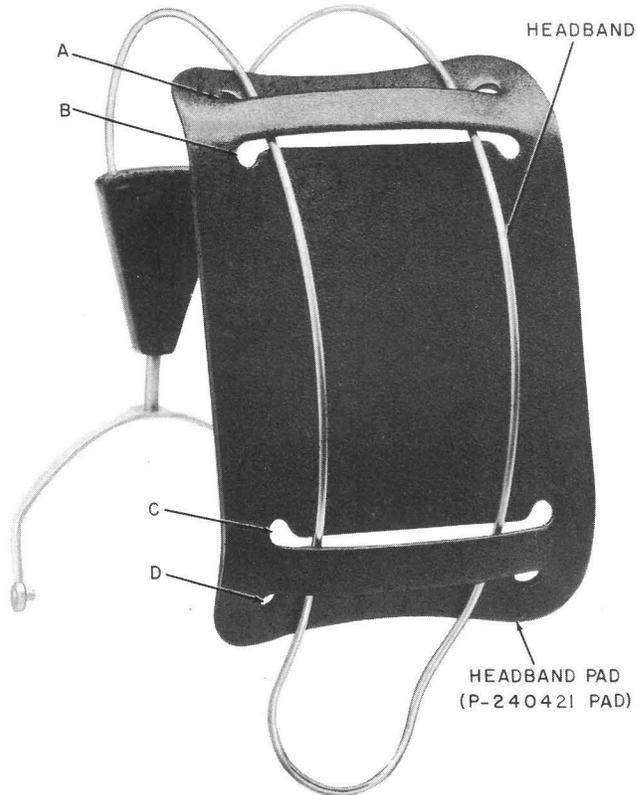

Fig. 10 — Synthetic Rubber Headband Pad in Position on Headband
**3.14 Synthetic Rubber Headband Pad:** Remove the pad from the headband. To place the synthetic rubber pad on the headband, pass the free end of the headband through slots A and B, and then C and D as shown in Fig. 10.